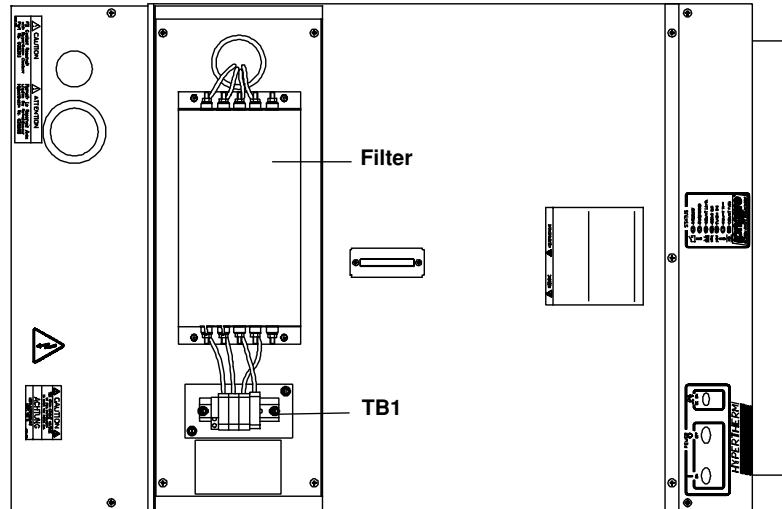

Figure d-2 Hyspeed HT2000LHF Power Supply with EMI Filter Cover Off – Top View
2. Unscrew the 4 filter cover screws and remove the cover to access the input voltage connections at TB1 (see Figure d-2).